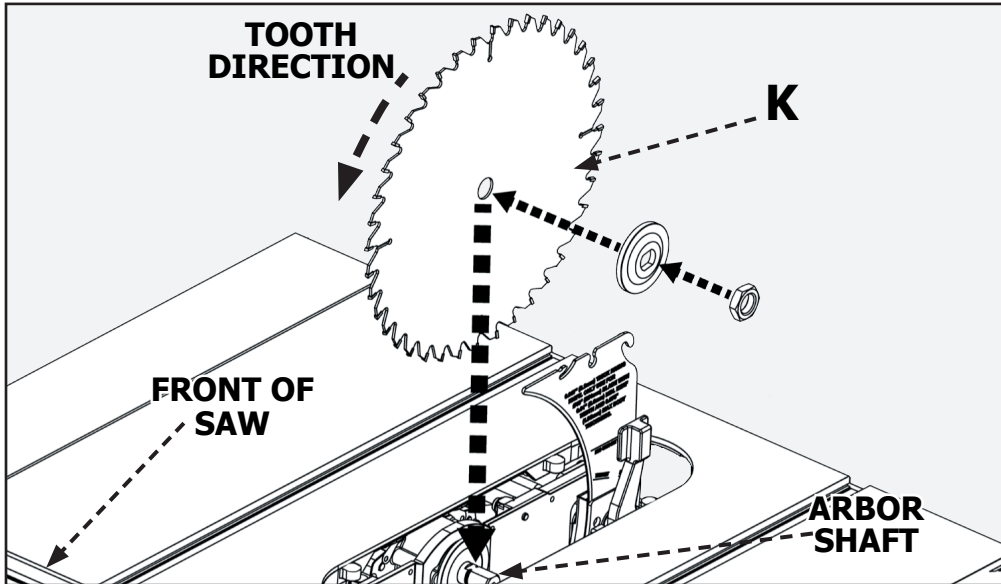

FIGURE 3
Place blade (K) on the arbor shaft with the teeth on the blade pointing toward the front of the saw. Place flanged washer on the shaft with the large side of the washer against the blade, then secure blade assembly with nut. See Figure 3.